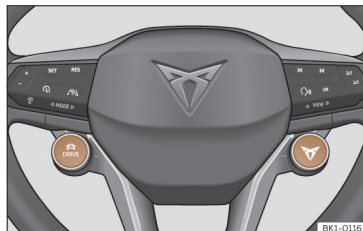

Fig. 120 Multifunction steering wheel: DRIVE and CUPRA buttons for selecting and changing the driving profile.
- **OR:** Press the  ¹⁾ button on the multifunction steering wheel >>> **Fig. 120** to activate the CUPRA driving profile.
- **OR:** Repeatedly press the  ¹⁾ button on the multifunction steering wheel >>> **Fig. 120** to switch between driving profiles.